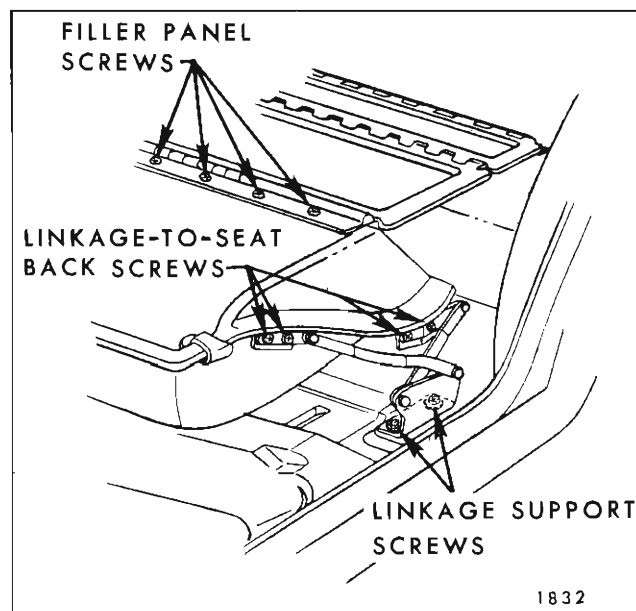

Fig. 2H20—Folding Second Seat Back Linkage and Filler Panel
2. On both sides of seat back, remove screws securing seat back to folding linkage (Fig. 2H20) and remove seat back and panel assembly from body.